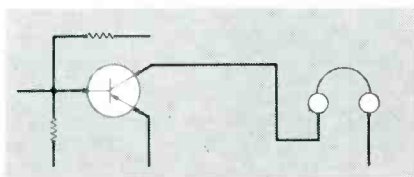

Fig. 7. Low-power stage drives phones.
**Earphones.** For driving earphones a power stage is not really necessary. The phones draw so little power that ordinary low-power stages will drive them sufficiently. Magnetic earphones can be connected as the entire load of a low-power stage, as shown in Fig. 7. The DC bias as well as the AC signal passes through the phones.